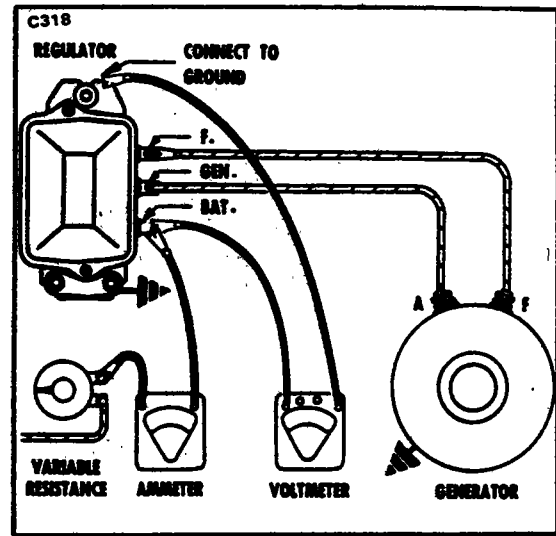

Figure 11-8. Checking Voltage Setting Variable Resistance Method
- (a) Connect ammeter and 1/4-ohm variable resistor in series with the battery as shown in Figure 11-8.